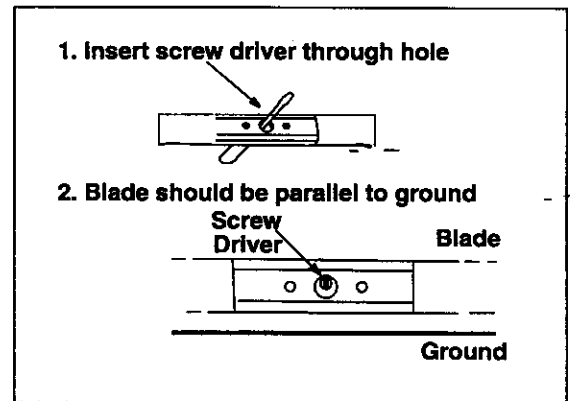

Figure 21
- An unbalanced blade will cause excessive vibration when rotating at high speeds and may cause damage to the unit. The blade can be tested for balance by balancing it on a round shaft screwdriver or nail. Remove metal from the heavy side until it is balanced evenly. See Figure 21.